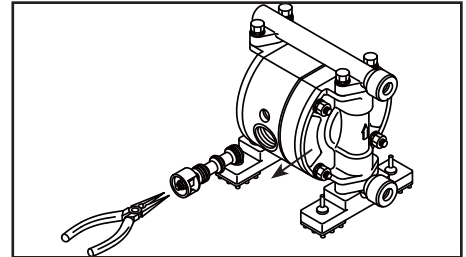

Figure 32
- Draw out the C spool valve assembly, and remove the seal rings from the C spool valve assembly (See Figure 32).